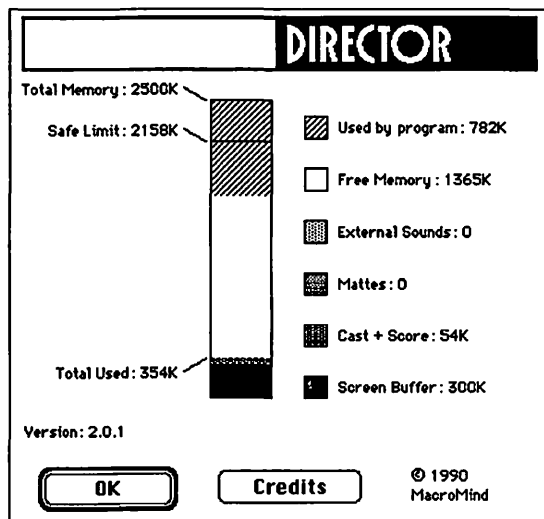

FIGURE 5-10 *The About MM Director Window reveals how RAM is used by the current animation.*
- Select **ABOUT MM DIRECTOR** from the Apple menu to see how RAM is allocated for the current animation (Figure 5-10). You can